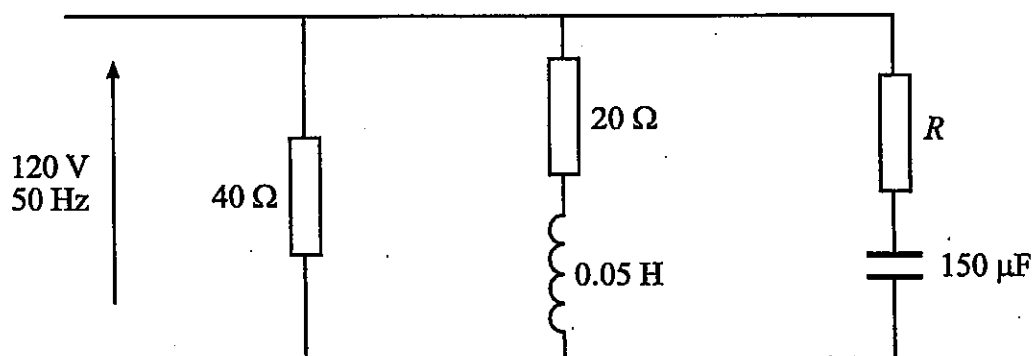

Fig Q4
- (a) Plot the load line on Worksheet Q3. (4)
- (i) the *peak to peak* value of the collector current for a signal at the base of  $\pm 40\mu\text{A}$ ; (4)
- (ii) the corresponding *peak to peak* change in collector voltage; (4)
- (iii) the power dissipation of the transistor for this signal input. (4)
4. In the parallel single phase circuit shown in Fig Q4, calculate EACH of the following:
- (a) the value of  $R$  if the overall power factor of the circuit is unity; (8)
- (b) the power dissipated in the circuit; (4)
- (c) the total impedance of the three branches in parallel. (4)